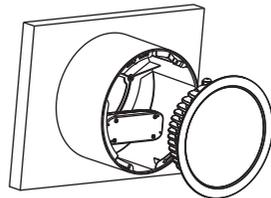

Figure.5
4. Place PSU first, and then the product inside the surface mounted body. (Fig. 5)